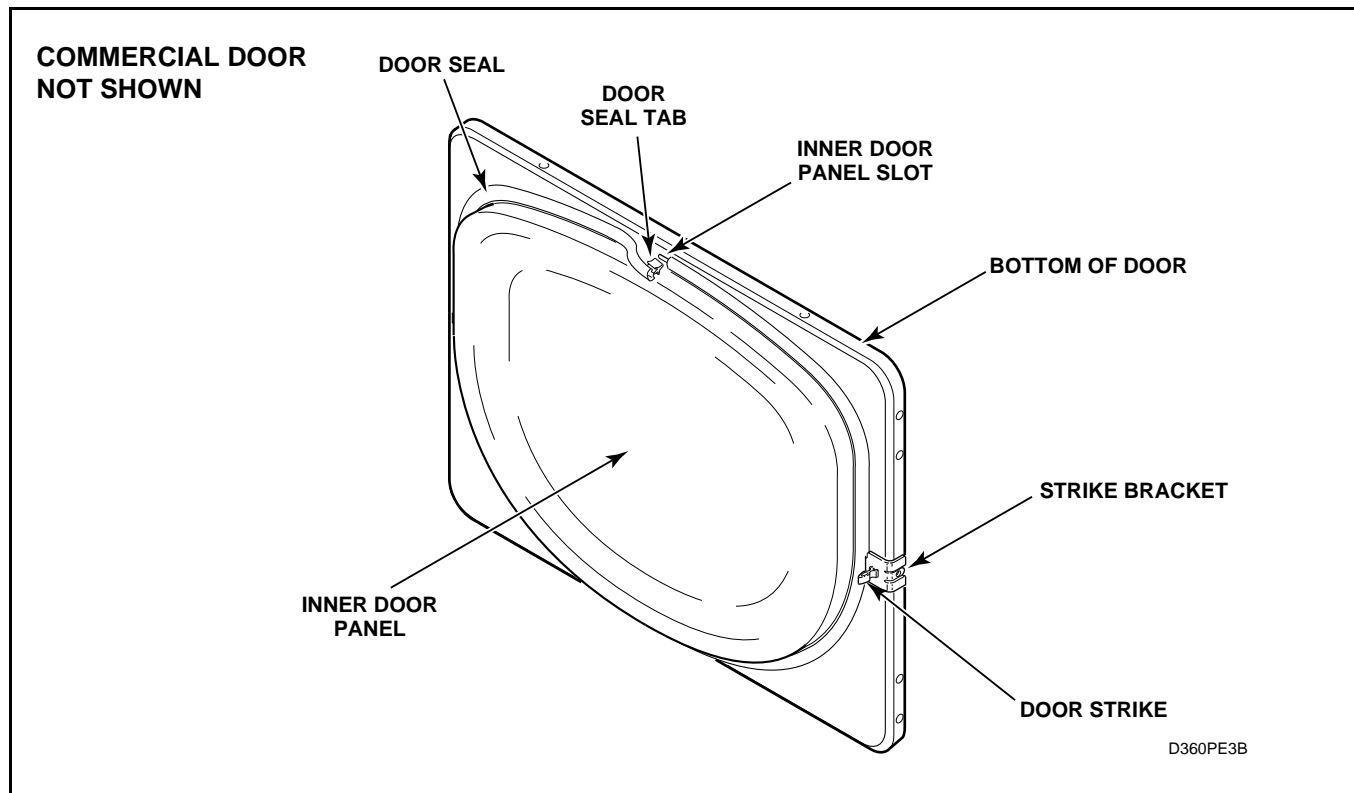

Figure 10
(Figure 10)
- Grasp either end of door seal at bottom of door and remove seal from tabs on inner door panel by gently pulling on the seal. See *Figure 10*.
NOTE: When replacing seal, be sure seal is not stretched or distorted. The tab in the seal should be installed in each slot of the inner door panel, shown in *Figure 10*. The split in the seal must be at the bottom of the door. Make sure that each tab of the seal is fully engaged into the slot.